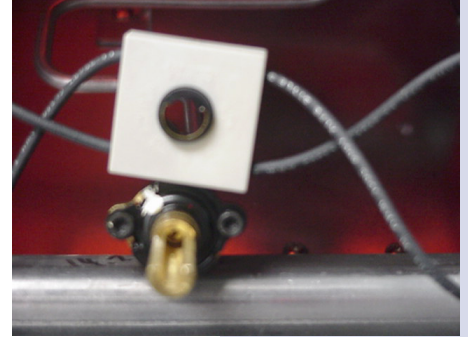

Figure 12
- 3. Remove igniter switches. (Section 3). (Figure 12)